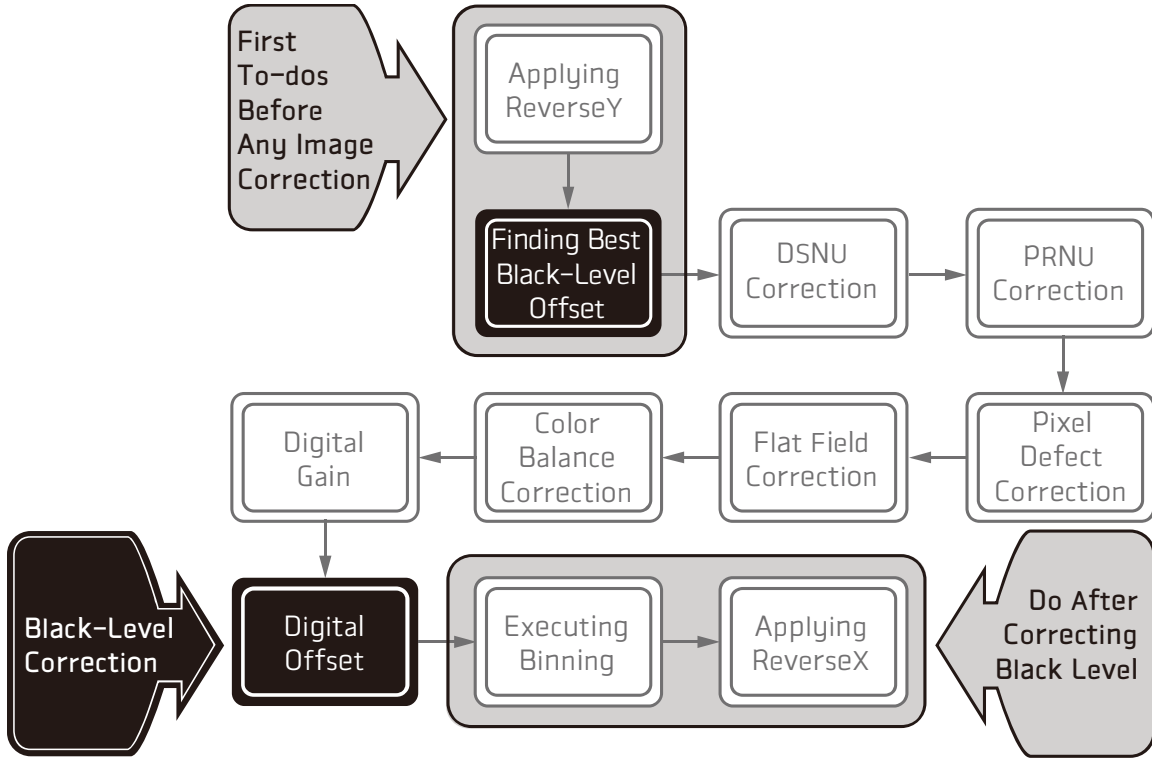

Figure 9-8 Sequence of signal processing and Black Level
5. Before set the **BlackLevel** value, refer to the sequence described in **Figure 9-8** below and finish the other necessary jobs related to acquired images.
The product handles signals basically in the sequence described in Figure 9-8 above. For instance, no need to work again if you did the DSNU/PRNU correction or others prior to the Black Level job, however, it needs to be done again in the case that it was finished before the DSNU/PRUN correction or others.